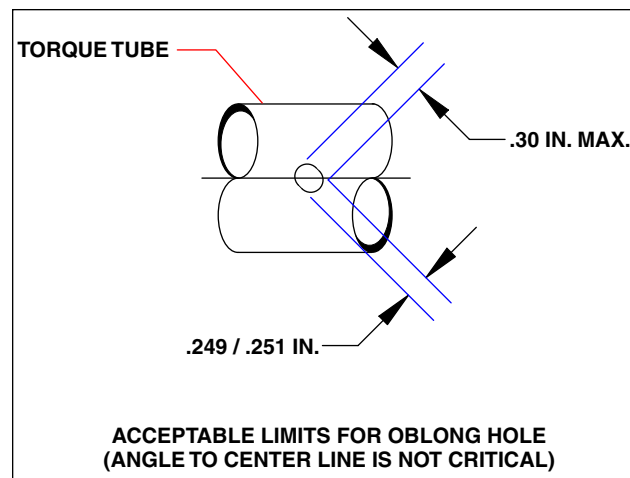

Figure 3-9. Elongation Limits
- (c) Inspect the attachment bolt holes (for the flap horn and the flap bellcrank) in the flap torque tube for cracks originating out of each hole using a Fluorescent Penetrant procedure per the latest revision of AC 43.13-1. Also, inspect the subject holes for elongation. Elongation up to .050 inch (see Figure 3-9) is acceptable provided that when the horn or bellcrank is mounted on the tube with the attachment bolts (without nuts) installed, there is no relative motion between the horn or bellcrank and the torque tube with a light load applied in a radial direction simulating a flap air load. Replace the torque tube per paragraph 4-12B, if cracks are noted in the subject holes or elongation exceeds limits.